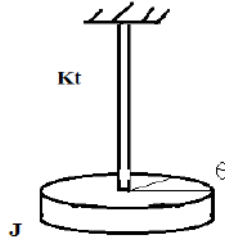

Fig.3
5. Calculate the natural frequency of vibration of a torsional pendulum as shown in Fig.3 with the following dimensions. Length of rod, $L=1\text{m}$, Diameter of rod, $d=5\text{mm}$, Diameter of rotor, $D=0.2\text{m}$, Mass of rotor, $M=2\text{Kg}$.